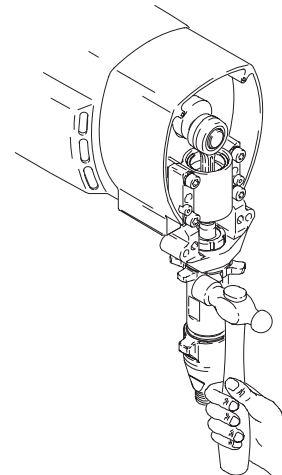

Fig. 23 7673A
5. Fig. 23. Loosen locknut by hitting firmly with a 20 oz (maximum) hammer. Unscrew pump.